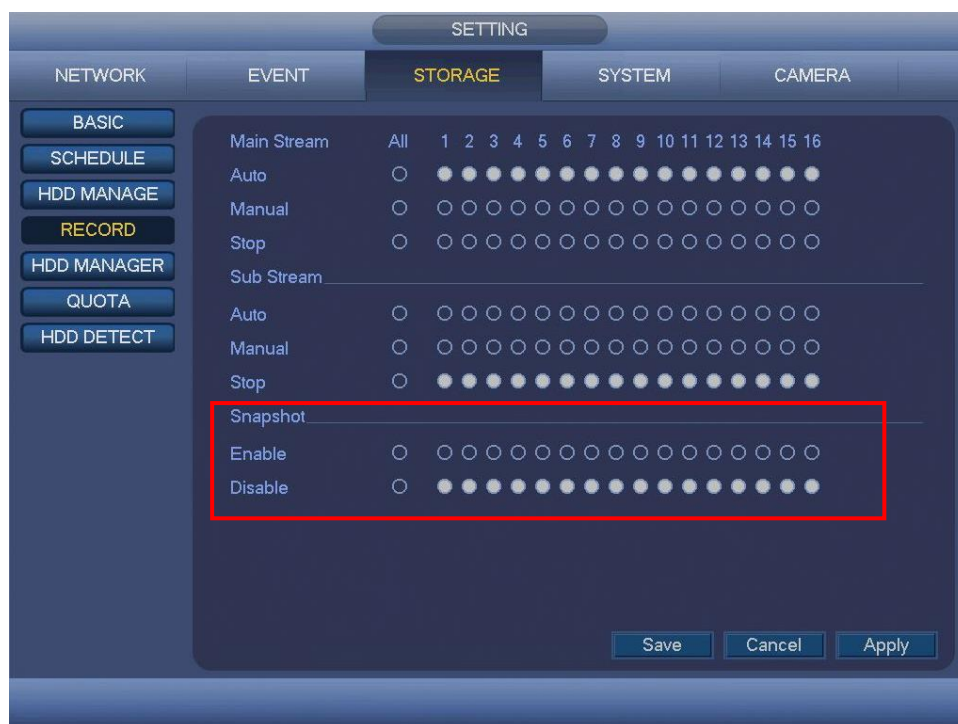

Figure 2-29
- On the preview interface, right click mouse and then select Manual -> Record, or in the main menu, from SETTING -> STORAGE -> RECORD, check the box to enable snapshot function of corresponding channels. See Figure 2-29.